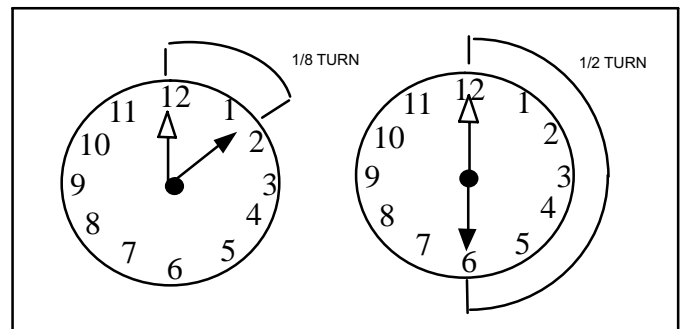

Figure 17. Tightening Distance
4. Attach the liquid line assembly to the liquid line orifice housing. Finger tighten and use an appropriately sized wrench to turn an additional 1/2 turn clockwise as illustrated in figure 17, or 20 ft-lb.
2. Attach the stubbed end of the kit valve to the liquid line orifice housing. Finger tighten and use an appropriately sized wrench to turn an additional 1/2 turn clockwise as illustrated in figure 17, or 20 ft-lb.
4. Attach the liquid line assembly to the TXV. Finger tighten and use an appropriately sized wrench to turn an additional 1/2 turn clockwise as illustrated in figure 17, or 20 ft-lb.
7. Connect the equalizer line from the TXV to the equalizer suction port on the suction line. Finger tighten the flare nut plus 1/8 turn (7 ft-lbs) as illustrated in figure 17.